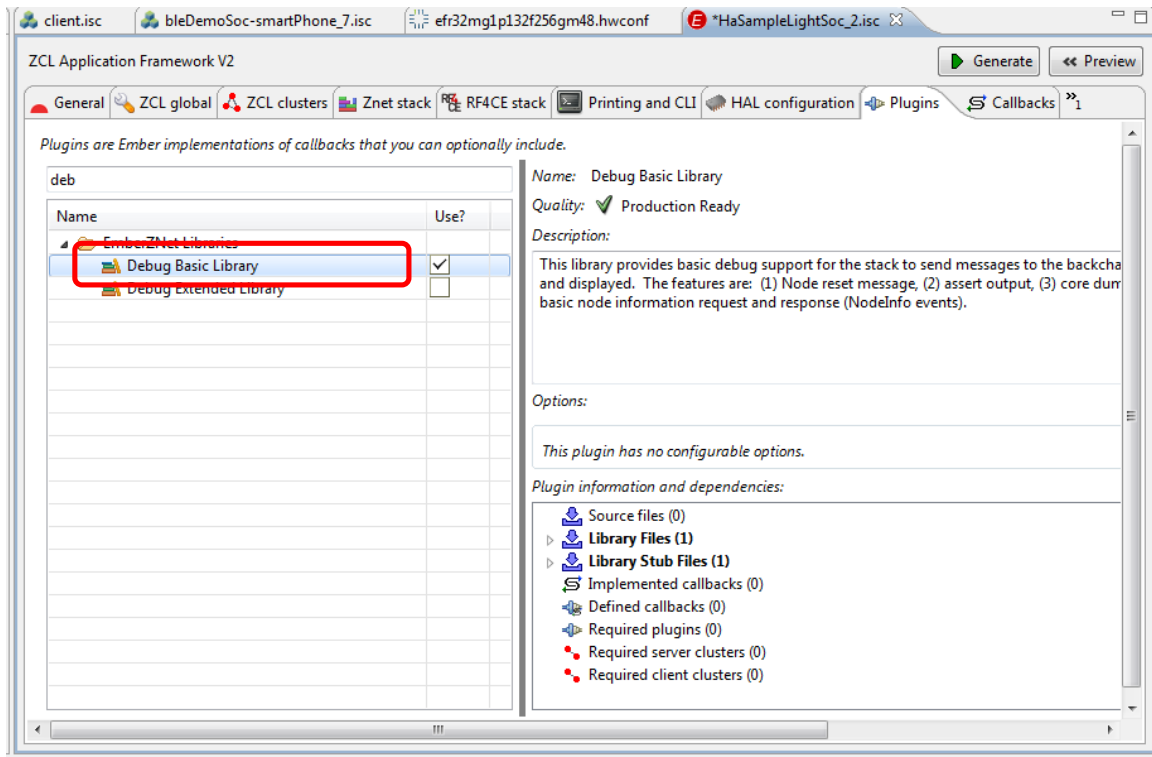

Figure 22. Plugins Tab
- On the Plugins tab, check Debug Basic Library (Figure 22). Use the field above the plugins list to filter the list.